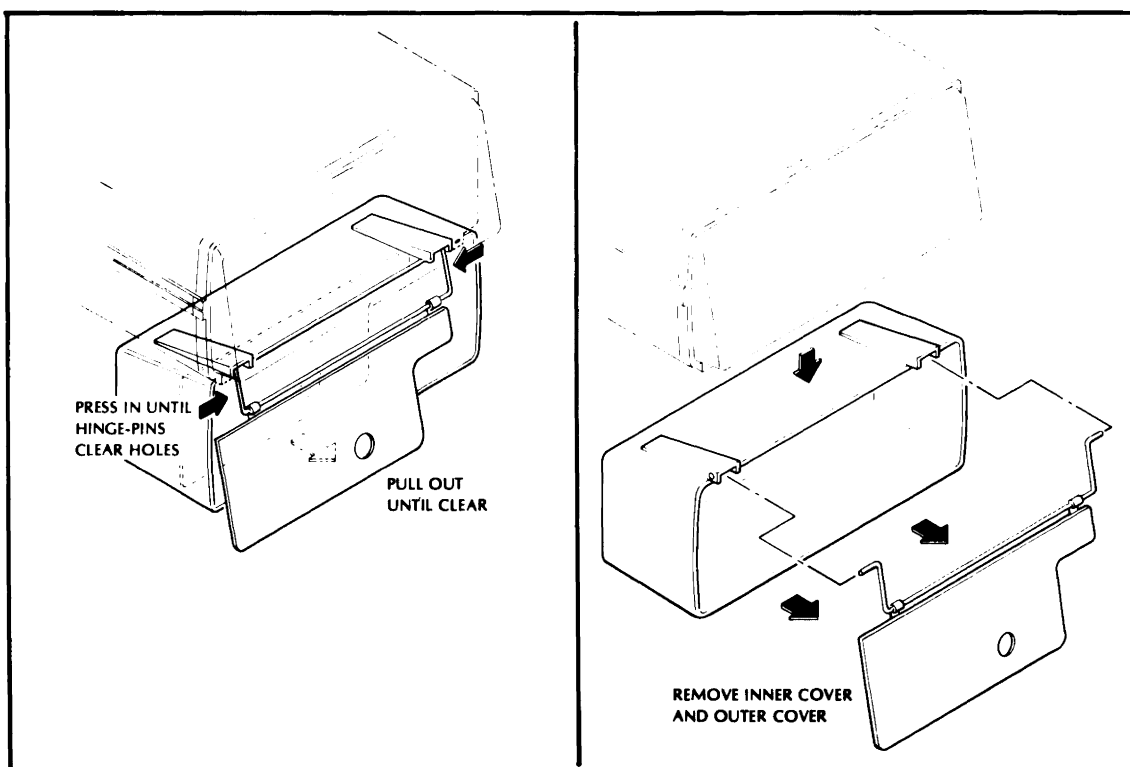

Figure 8-2. Storage Cover Removal
- a. Removal of the front Storage Cover. Pull gently at the pivot points of the handle, spreading it slightly, and swing it out of the way of the front Storage Cover. Open the cover and remove the Data Probe and Timing Pod assemblies. Remove the front Storage Cover from the instrument by bending the spring retainer together, freeing the hinge points. See *Figure 8-2*.